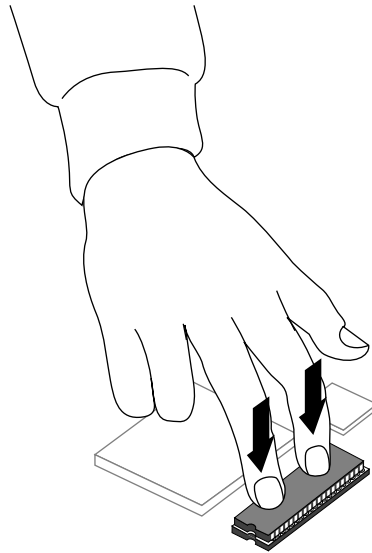

Figure 2-14 Pressing the PROM Chip into the Socket
6. Once the pins are lined up, press down firmly on the top of the PROM chip until it is seated in the socket, as shown in Figure 2-14.